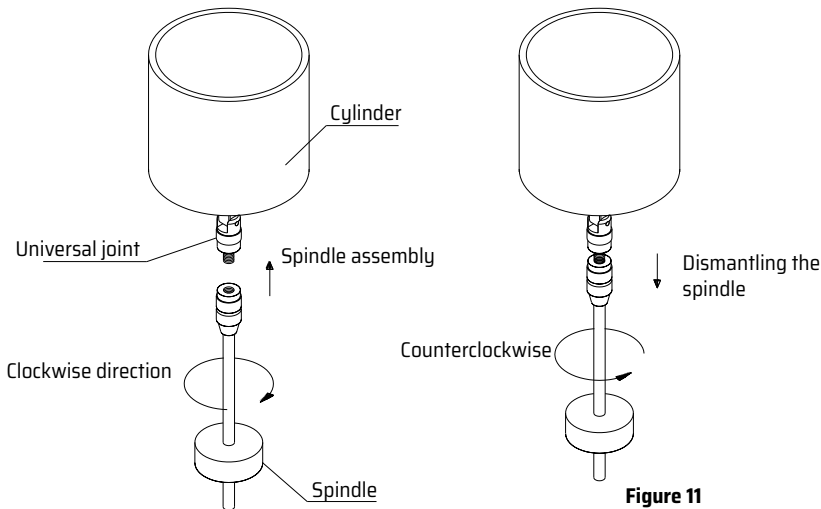

Figure 11
- » Given that the spindle and the universal joint are joined by a left-hand thread, the spindle must be mounted or dismantled in the correct direction of rotation (Figure 11), otherwise the universal joint will be damaged.